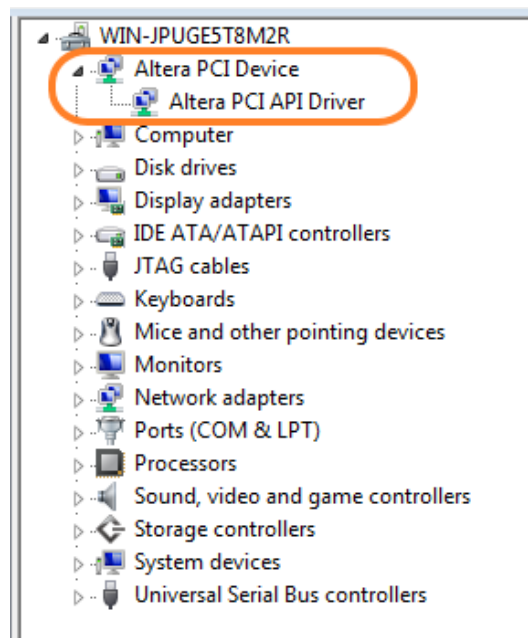

Figure 7-9 Altera PCI API Driver in Device Manager
12. Once the driver is successfully installed, users can see the **Altera PCI API Driver** under the device manager window, as shown in **Figure 7-9**.